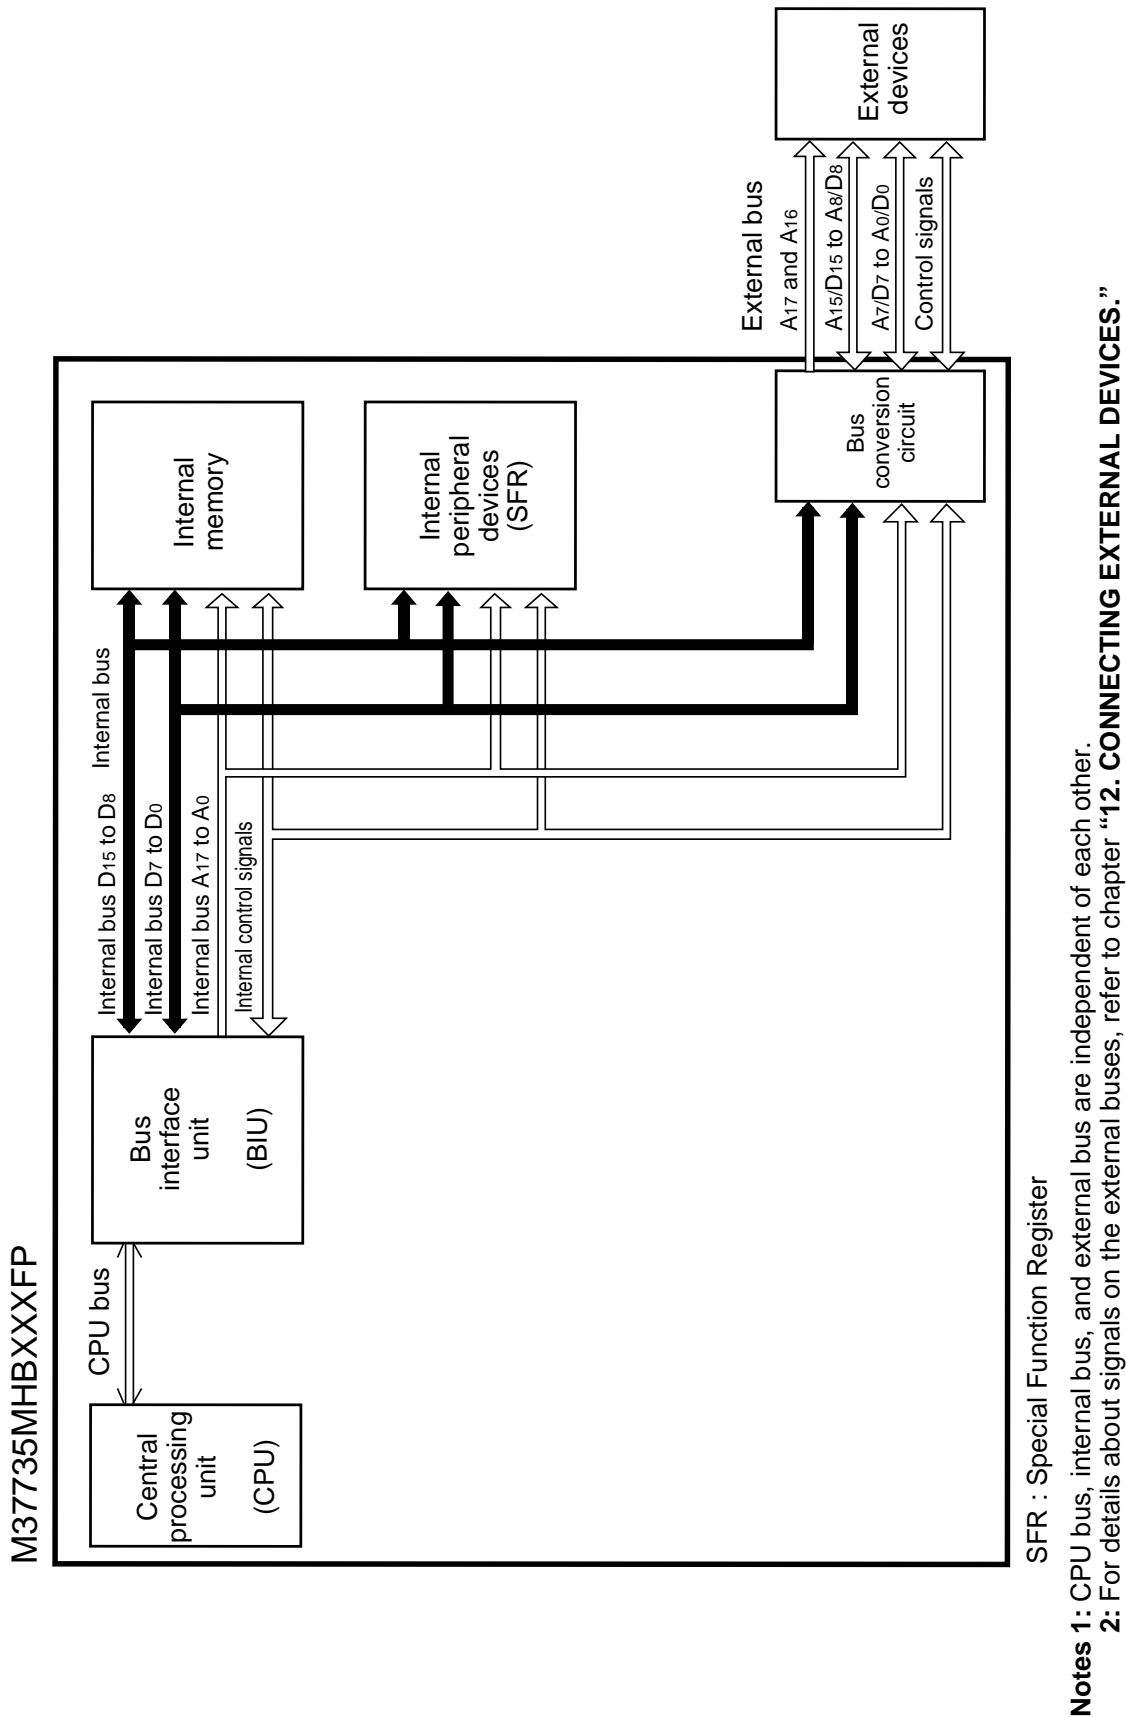

Fig. 2.2.1 Buses and bus interface unit (BIU)
- External buses in Figure 2.2.1